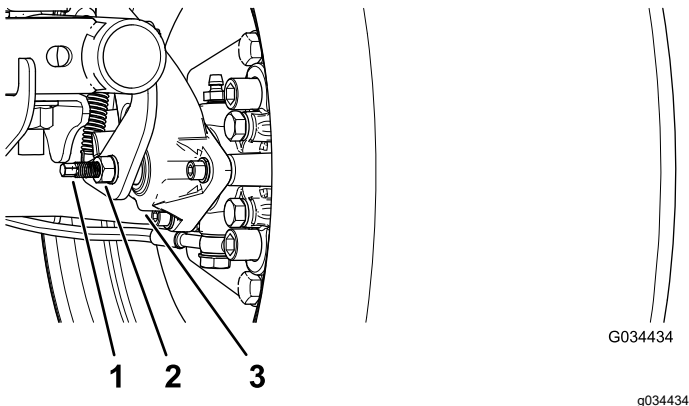

Figure 50
3. Using 2 wrenches, hold the adjusting post on the caliper in place with 1 wrench, and loosen the jam nut 1/4 turn with the other wrench (Figure 50).
4. While holding the adjusting post and the jam nut in place, turn the adjusting post in to tighten (Figure 50).
5. While holding the adjusting post and the jam nut in place, back off 1/4 turn (Figure 50).
6. While holding the adjusting post and the jam nut in place, tighten the jam nut (Figure 50).